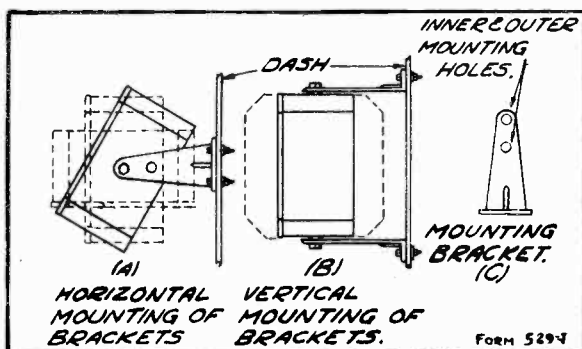

Fig. 5—Method of Mounting Speaker
The speaker-“B” eliminator is mounted on the back of the dash by means of two brackets, as shown in Fig. 5. Usually the space available will govern the location of the speaker and position of it on the mounting brackets. However, the matter of acoustics should be given careful consideration. One of the most desirable positions from the standpoint of
acoustics is that shown by the solid lines in Fig. 5 (A). In this position the sound waves travel in the most direct lines toward the listener. After the
After the position of the speaker is decided on, drill the four $\frac{5}{16}$ " holes required for the bracket mounting bolts. A template for these holes is supplied with the receiver. The holes are arranged in a rectangle. The centers of the holes, the small dimension are $2\frac{3}{8}$ " apart and the long dimension 10" apart. In Fig. 5 is shown how the brackets can be mounted horizontally (A) or vertically (B), and the different positions in which the speaker itself can be placed. There are two holes in each bracket as shown in Fig. 5 (C) which determine the distance of the speaker box from the dash. The grilled portion of the box at the front should face the listener.